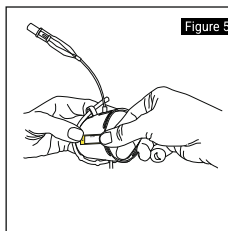

Figure 5
7. Take the sticker with the symbol  out of the box. Write the expiry date of the device in a permanent way on it (10 days from the date of activation of the product). Then apply the sticker in a clearly visible place on the outside of the product housing [Figure 5].